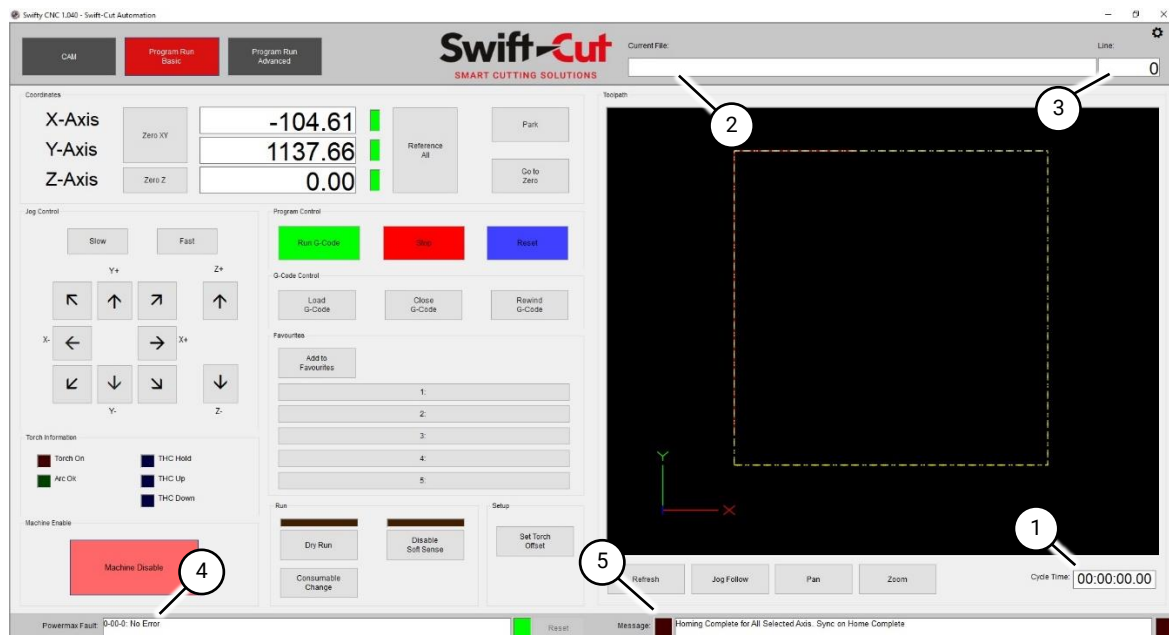

Fig 60 System information
1. System information is displayed in various information fields on the screen (Fig 60). The information provided consists of the following:
- 1.1 Cycle time (Fig 60 (1)) - Shows the current elapsed cutting time.
- 1.2 Current file (Fig 60 (2)) - Shows the current tap file.
- 1.3 Line (Fig 60 (3)) - Shows which line of G-Code is currently being executed.
- 1.4 Powermax error (Fig 60 (4)) - Displays any error codes from the plasma source. (Hypertherm plasma sources only)
- 1.5 Message (Fig 60 (5)) - General information messages.